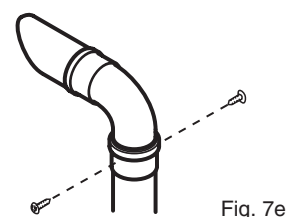

Fig. 7e
14. Fit the 93° elbow/plume outlet and secure with the two remaining screws supplied. Ensure the plume outlet is at least 45° to the wall and that the 'peak' is uppermost (Fig. 7e).